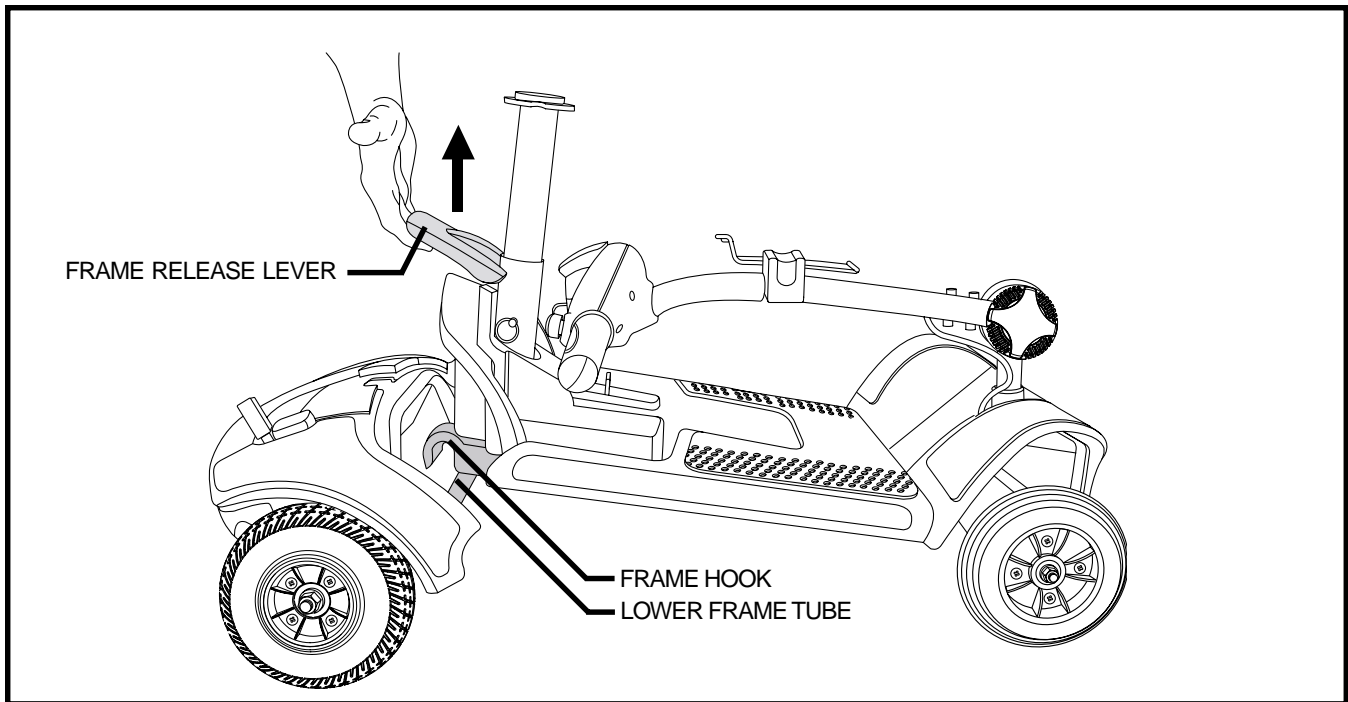

Figure 19. Frame Separation
2. Lift up on the frame release lever until the frame hooks are no longer resting on the lower frame tube. See **figure 19**.
3. Slowly separate the two sections of the Travel Scooter. See **figure 19**.
NOTE: Before attempting assembly, tilt the rear half of the Travel Scooter slightly back on the anti-tip wheels as show in figure 19.
1. Use the frame release lever to lift the front section as you align the frame hooks of the front section with the lower frame tube of the rear section **See figure 19.**